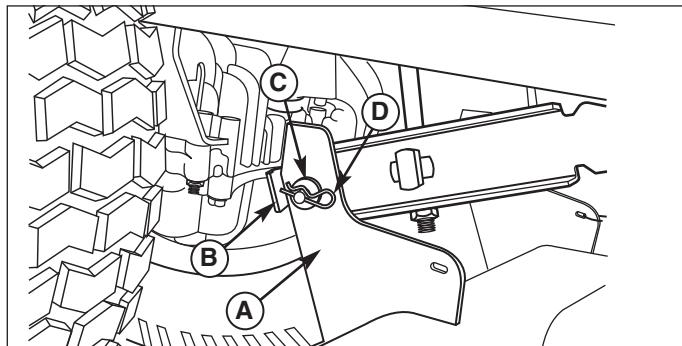
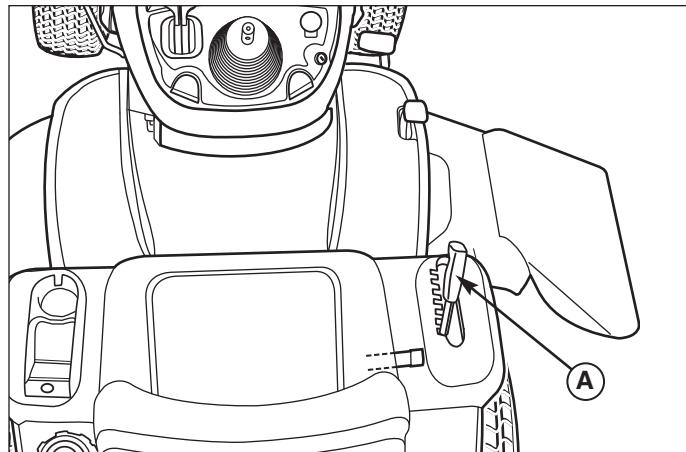

Figure 4. Lift Arms
Figure 7. Raising & Lowering Mower
4. Remove hair pin (D, Figure 4) and washer (C). Disconnect the mower lift plates (A) from the tractor lift arms (B). Reinstall washers (C) and hair pins (D) to prevent loss.
2. Place mower height adjuster (B, Figure 7) in the lowest position. Place the mower lift lever in the lowest position. Slide mower deck under right side of tractor so that mower hitch is aligned with the front tractor hitch.
3. Turn wheels straight. Lift the mower hanger (C). Insert rod (B) through mower hanger (C) and tractor brackets (D). Secure with safety clip (A).
4. Re-install hair pins (D, Figure 4) and washers (C) into the mower lift plates (A) and the tractor lift arms (B).
The cutting height lift lever (A, Figure 7) controls the mower cutting height. The cutting height has seven positions between approximately 1-1/4" and 4" (3,2-10 cm).